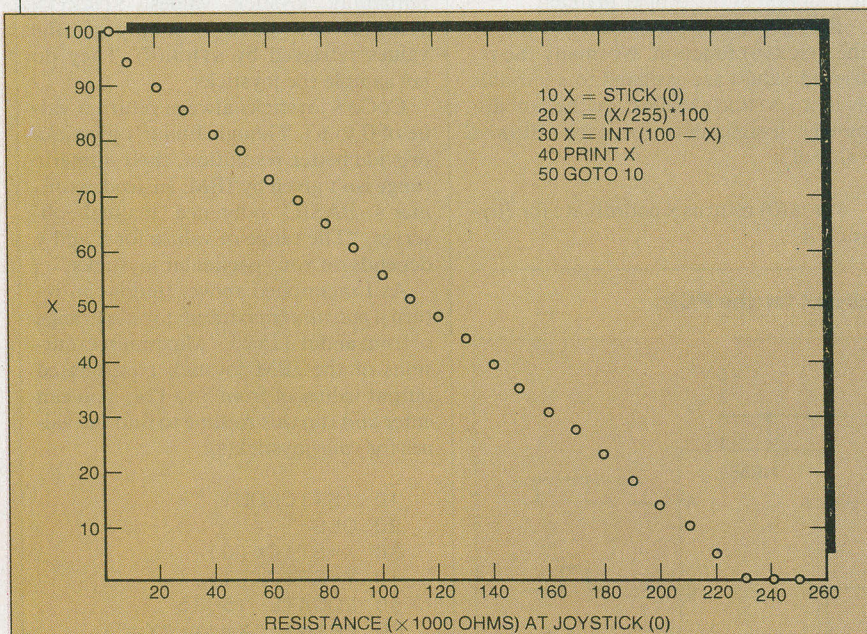

Fig. 4. Corrected joystick output for input of 0 to 250 kilohms.
Figure 4 is a calibration graph I made to gauge the accuracy of Junior's joystick output. The graph was made by replacing the potentiometer for STICK(0) with a precision (1%) decade resistance box. I then recorded the STICK(0) output, which was corrected for a scale of 0 to 100 and then complemented, at increments of 10 kilohms. As you can readily see, Junior's joystick hardware and software produces a very linear output.